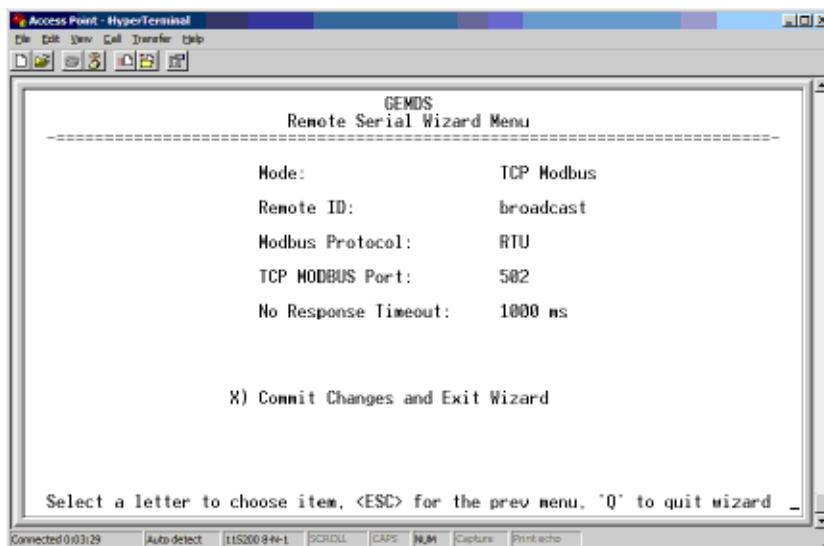

Figure 6-13. Last Screen of Remote Serial Wizard
- The last screen of the wizard, shown in Figure 6-13, displays all of the parameters that were configured and allows the configuration to be committed.